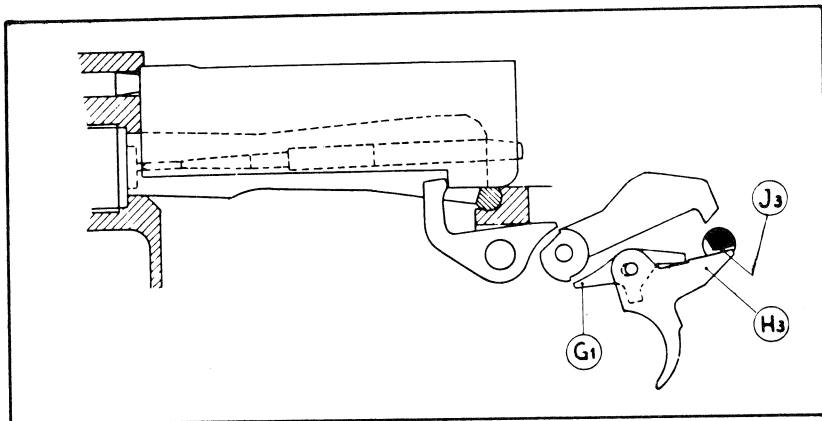

Fig.16
- During the hammer release, the sear which has been released by the hammer and due to the oval housing of its axle, it travels forward (fig. 16) by the action of its spring.
- The change lever axle has in the rear end (H3) of the trigger its deeper notch (fig. 16).